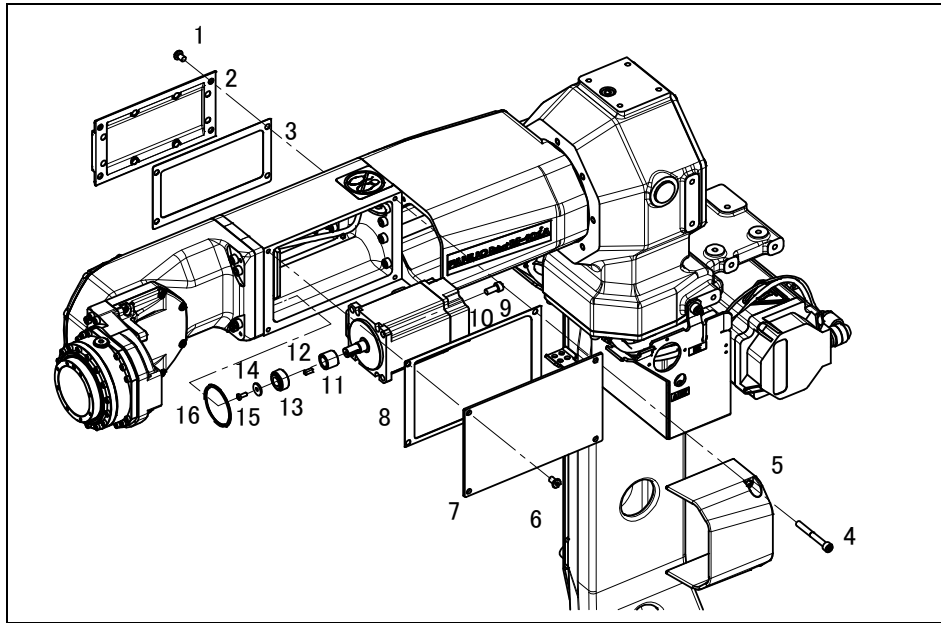

Fig. 6.13 (a) Replacing the J5-axis motor
- 4 Remove seal bolts (1) and the J5 motor cover (2).
- 5 For M-10iA or M-10iA/6L or M-10iA/10S, replace the gasket (3). (Remove adhesive tape completely.)
- 6 Remove bolts (4) and the duct cover (5).
- 9 Remove seal bolts (6) and the plate cover 1 (7).
- 10 In case of M-10iA or M-10iA/6L or M-10iA/10S, replace gasket (8). (Remove adhesive tape completely.)
- 11 Remove bolts (9) and the motor (10) that gear (13) attaches.
- 12 Replace motor new one and assemble it applying the steps above in reverse sequence. Refer to Fig. 6.13 (b) when motor (10) is assembled. Please wrap the seal tape when you recycle seal bolt (1), (6). Replace gasket (3), (8) and O-ring (16) by new article. Apply LOCTITE 675 on the key.